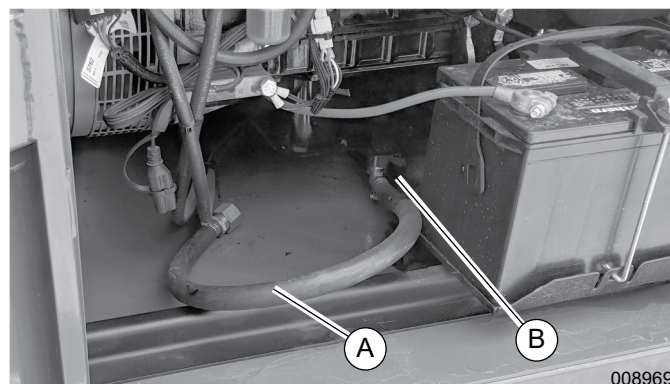

Figure 4-1. Oil Drain Hose Location
1. See Figure 4-1. Place container under drain port, or connect hose (A) or piping to drain port leading to container.